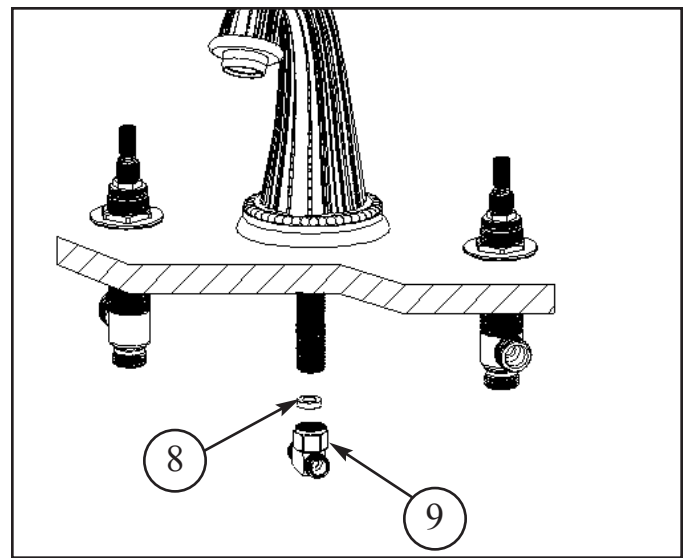

Figure 2
3. Insert rubber WASHER (8) into TEE (9) and attach to spout SHANK (1). See Figure 2.